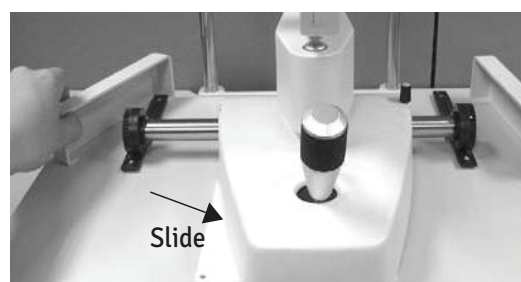

Figure- 6 Install Base
8. Install the Slit Lamp Assembly onto the tracks of the Table Top and slide the Guide Rail Covers around the tracks. Refer to Figure-6.